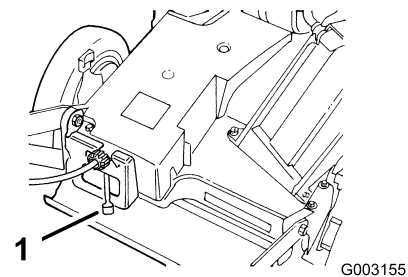

Figure 17
4. Move the ground speed control to the Neutral (N) position (Figure 17).
The machine has 3 ground speeds. 1 is slow, 2 is medium, and 3 is fast. The ground speed control is located at the rear of the belt cover (Figure 17).